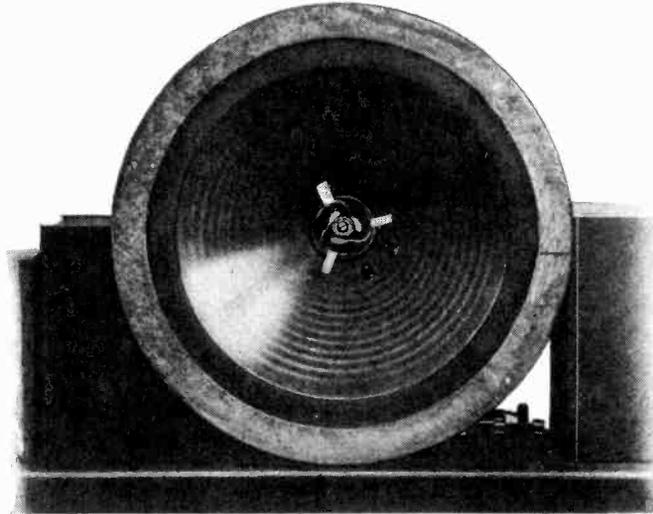

Figure 18—View showing loudspeaker adjusting strips
5. Place three pieces of cardboard the thickness of a visiting card and approximately  $1\frac{1}{2} \times \frac{1}{4}$  in. in size in the space between the inside of the cone coil and the pole piece. This is shown in Figure 18.